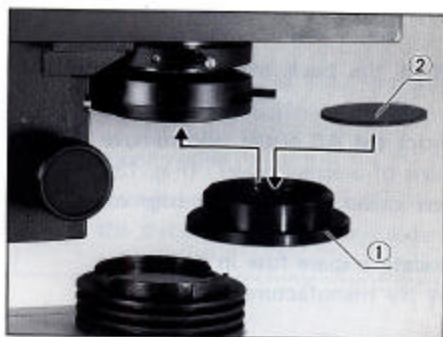

Fig. 9
Slip the blue filter (32.5 mm dia.) ② into the filter holder ① (or into the filter mount at the top of the attachment lens). (Fig. 9)
Insert the filter holder ① into the condenser from below. (Fig. 9)